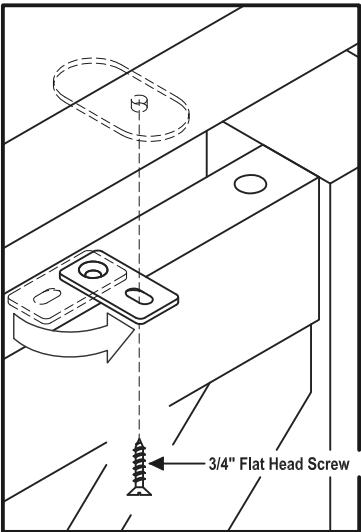

Figure 3
Rotate metal tabs on the unit out and attach Top (A) to unit with 3/4" Flat Head Screws. (See Figure 3)